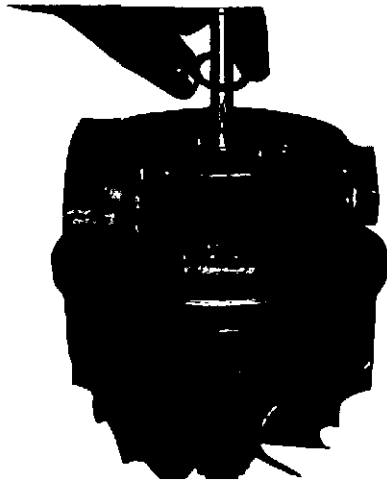
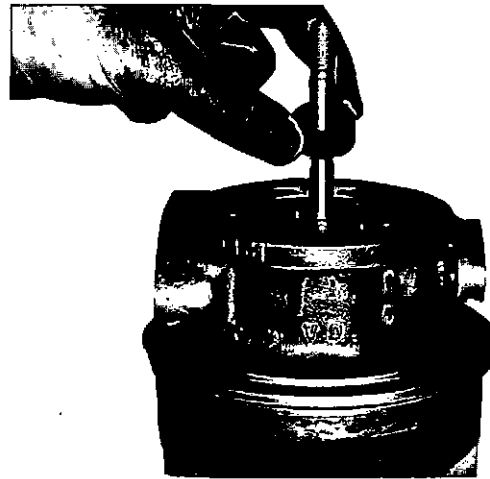

Fig. 5-26, (TA28). Installing the bearing washer (compressor end)
Fig. 5-27, (TA29). Installing the bearing (compressor end)
5. Install a new bearing washer over the compressor end of the shaft, Fig. 5-26, down to the inboard snap ring. Install a new bearing over the shaft, Fig. 5-27, down to the bearing washer.